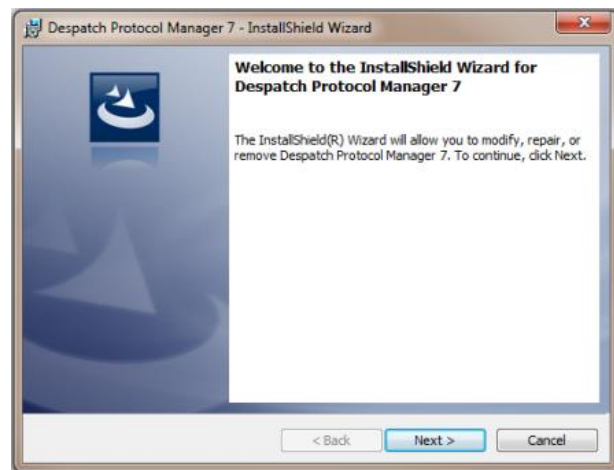

Figure 5. Installer Welcome Screen.
5. Double-click **DespatchProtocolManager.exe** application to show the installer welcome screen (Figure 5)